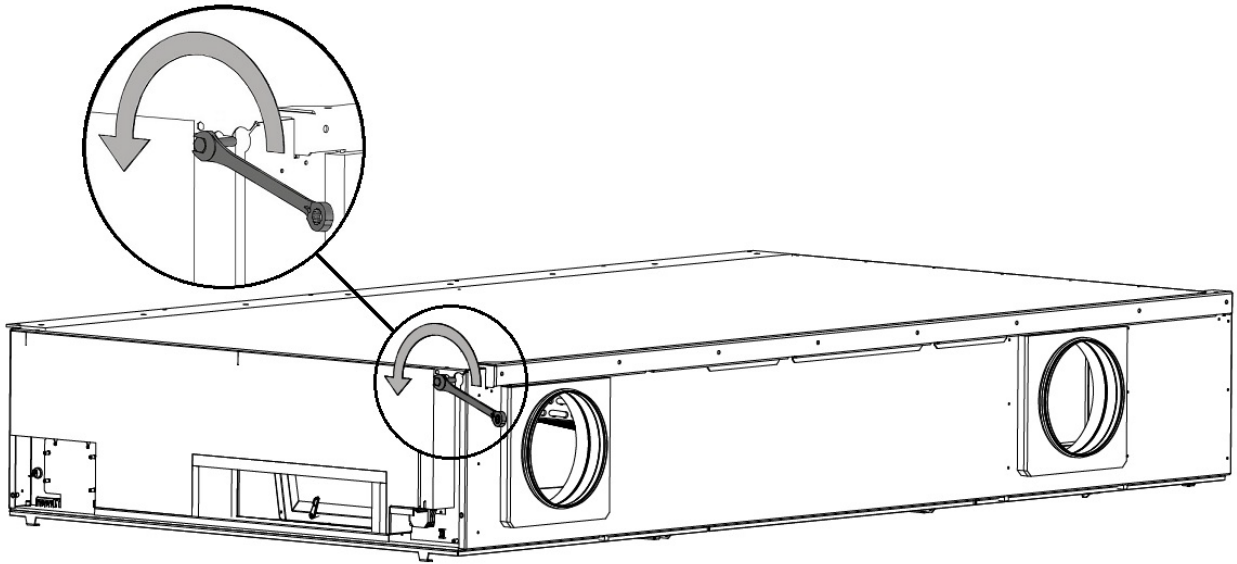
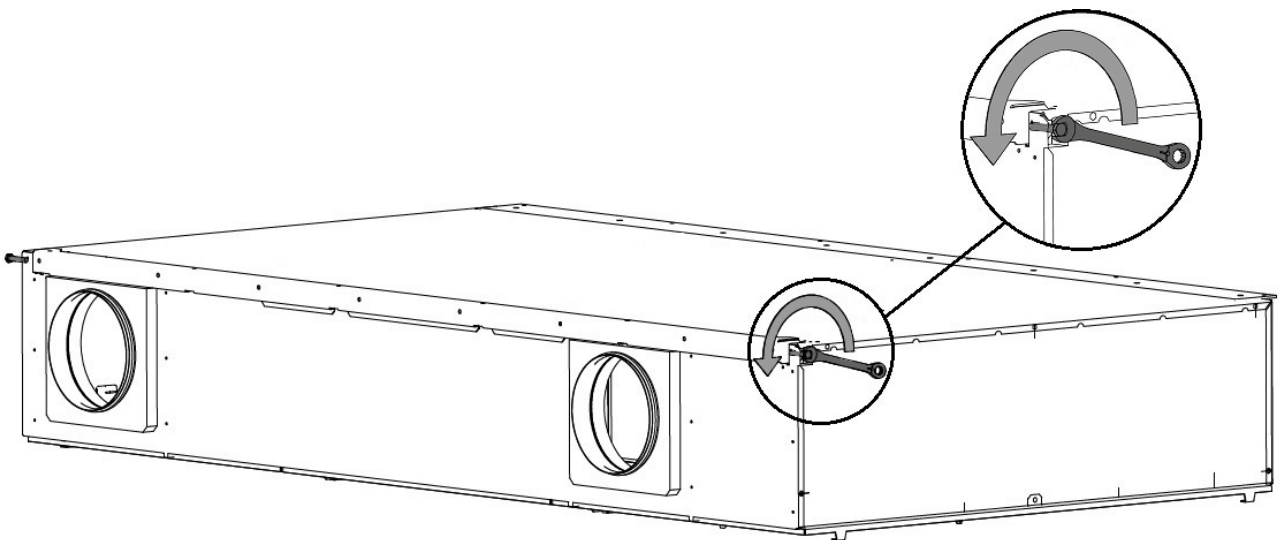

Figure 6: Disassemble the rear bracket, left-hand side seen from behind
Figure 7: Disassemble the rear bracket, right-hand side seen from behind
1. Disassemble the rear bracket, see Figure 6 and Figure 7.